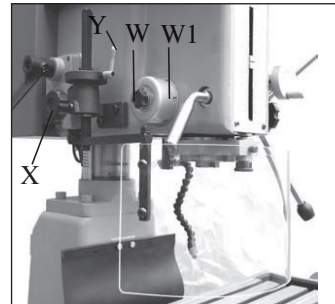

Fig. 11
- Lock the vertical height by adjusting the lever screw (Y-Fig.11)
- Turn the spring case (W1-Fig.11) counter-clockwise a bit to tighten the spring.
- Tighten the grip knob (W-Fig.11).
- 1.Lock the vertical height by adjusting the lever screw (Y-Fig.11)
- 1.Use knob (X-Fig.11) to lock the horizontal rotation and position of the safety chuck guard. Loosen knob (X-Fig.11) to open the safety chuck guard, when it opened that the power will be shut off.